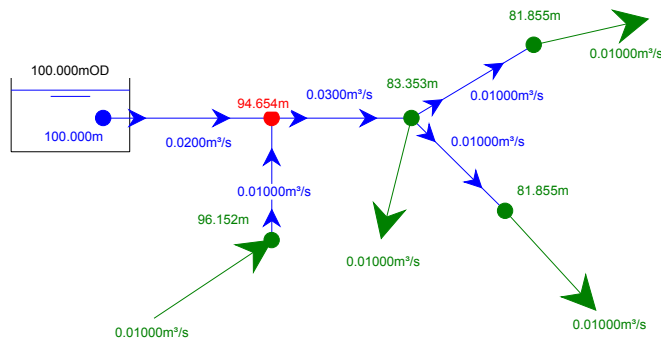

Figure 0.2 Solved Network system
- Click on the **Steady Pipe Flow** command on the **Analysis** menu to compute flow and pressure distribution. The computed flow and head values are printed on the design sheet, as are the flow directions, as shown in Figure 0.2.